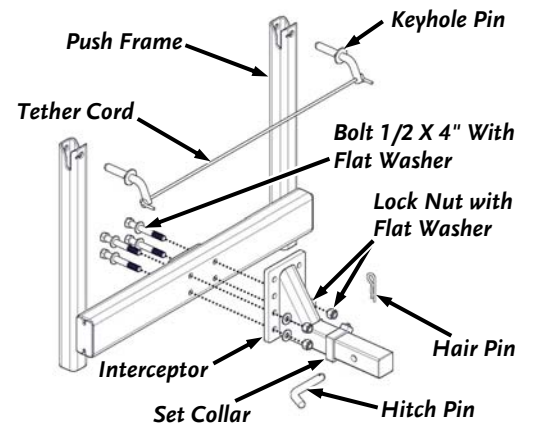

Figure 6
12. Insert interceptor into receiver-leg up- as shown in diagrams. Insert pin through receiver and hole in interceptor secure with hair pin (**Figure 6**).